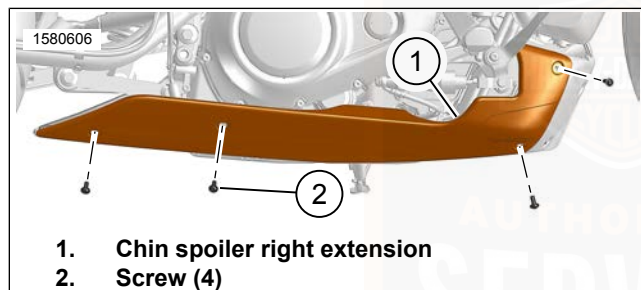
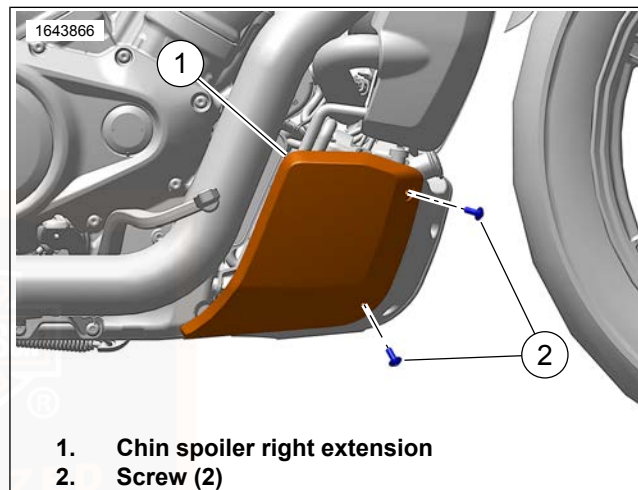

Figure 87. Chin Spoiler Right Extension (Long)
Figure 88. Chin Spoiler Right Extension (Short)
1. See Figure 87 and Figure 88. Remove screws (2).
2. Remove chin spoiler right extension (1).
1. See Figure 87 and Figure 88. Install chin spoiler right extension (1).
2. Install screws (2). Tighten.